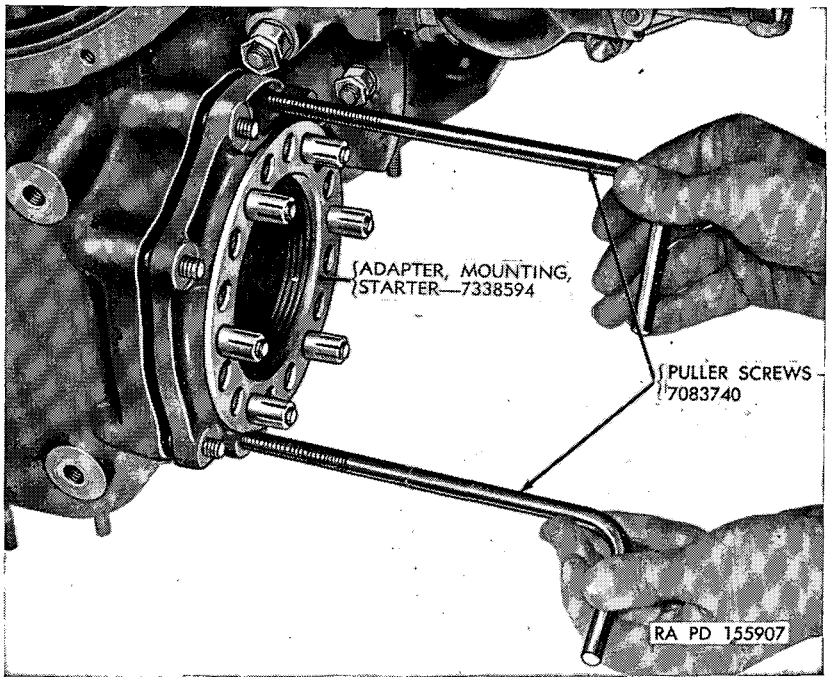

Figure 37. Removing starter drive assembly.
g. Remove Starter Drive Assembly. Remove the starter drive assembly (Z, fig. 35) by removing the jam nuts, plain nuts, and plain washers holding the assembly to the accessory case. Using puller screws 7083740 (fig. 37), pull the assembly from the studs. Discard the "O" ring gasket.